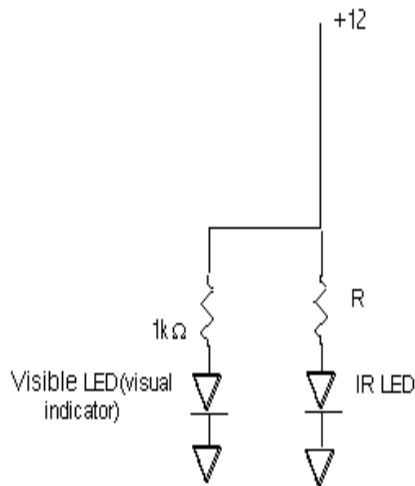

Figure 2. IR LED light source with visible LED visual indicator.
**2. Construct IR Light Source:** On the smaller of the two breadboards, hook up an IR LED to provide an infrared light source for signaling the phototransistor as shown in Figure 2 below. Use a pushbutton switch to turn the IR LED on and off. The IR LED will drop approximately 1.35 volts and should be operated with  $\sim 100$  mA of current. **Q1:** Calculate the value required for the resistor labeled R in the circuit below to achieve these design specifications. **Q2:** Now calculate the power that you expect this resistor to absorb. (Remember the formulas for power in terms of current and resistance from your circuits or physics course. If you don't remember them, look them up or ask someone.) You will see that it is larger than 1/4 Watt. Since 1/4 Watt is the highest power the small resistors that we use in the lab can dissipate safely, you will have to use a larger resistor or a combination of resistors.